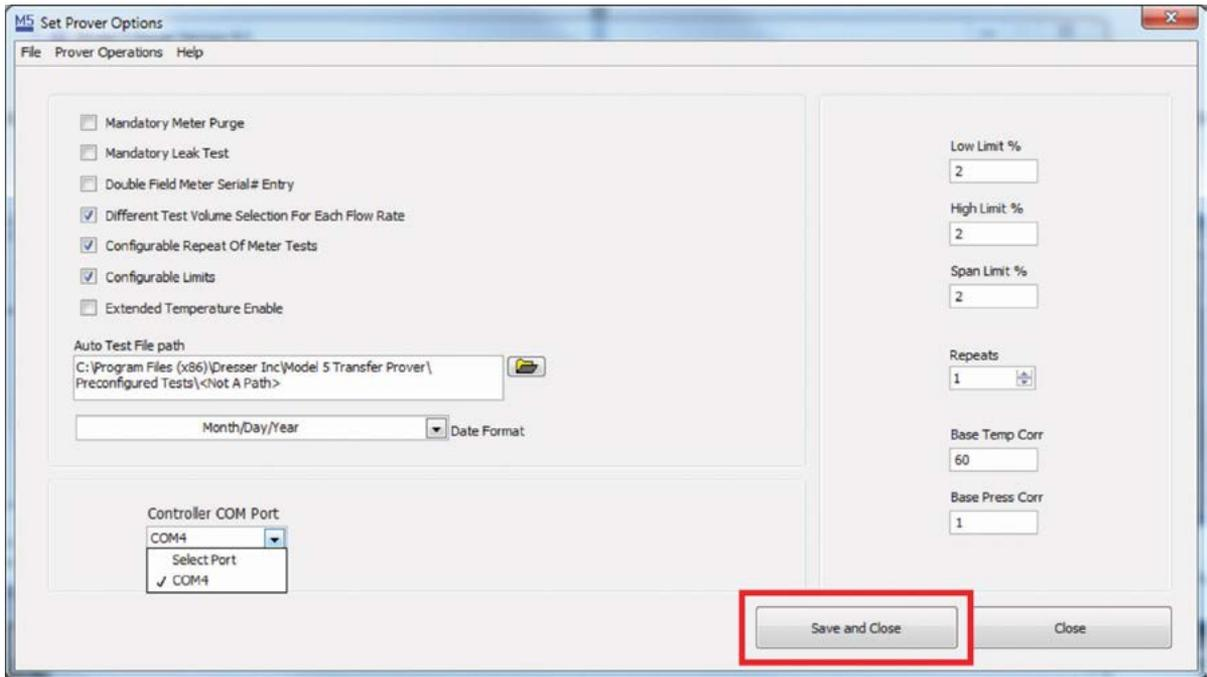

Figure 119: Click "Save and Close"
9. On the "Set Prover Operations" window, select "Save and Close" as shown in **Figure 119**.